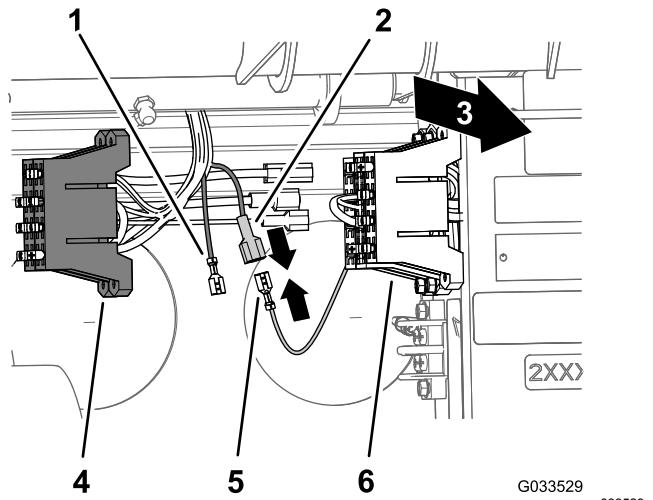

Figure 25
2. Locate the uninsulated receptacle terminal at the end of the open, yellow power wire of the fuse block for the machine and the insulated blade terminal at the end of the yellow, optional-power wire of the fuse block of the sprayer wiring (Figure 25).
3. Connect the uninsulated receptacle terminal of the fuse block for the machine to the insulated blade terminal of the fuse block of the sprayer (Figure 25).